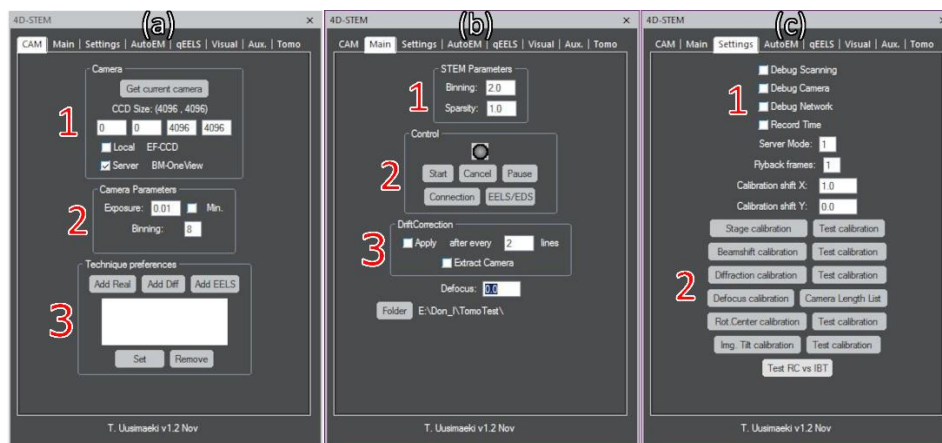

Figure 1. Three different tabs of the St4DeM user interface (UI) for basic 4D-STEM mode (DM3).
St4DeM can be started by selecting the “St4DeM” menu command in DM. A dialog window user interface (UI) will appear as shown in Figure 1. This dialog consists of 8 different tabs: Main, Camera, Settings, AutoEM, q-EELS, Auxiliary, Analysis and Tomography.